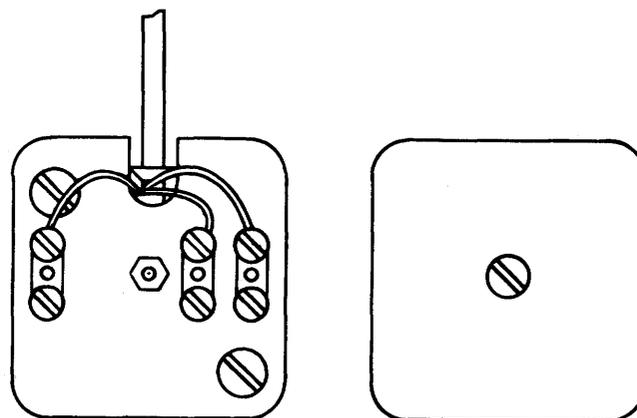

Figure 4. GTE AE D-150000-A Connecting Block.
2.04 GTE AE D-150000 and D-150002 blocks are three- and four-conductor devices, respectively, molded of phenolic and arranged with a removable tubular metal stud in the center which serves to retain a ring band strain relief and is tapped to accept the single captive screw used to retain the matching cover (Figure 4). The design is not suitable for any other type of strain relief and has no provision for intertwining the station wire conductors to secure them in place. A cord entry point is molded at the top and an opening partly in the block surface and partly in the bottom edge serves as an entry point for station wiring. The shallow cover is notched at one end for cord entry. Two screws are provided for each terminal, and the latter are designated as L1, L2, 3 and 4G. The D-150002 block is completely equipped; on the D-150000 block, terminal 3 is omitted. Addition of a fourth terminal in the field is not feasible, since the terminals are secured to the block with tubular rivets. Both blocks were manufactured in black (suffix A) and in ivory (suffix B). D-150000-A blocks were furnished with black 80-series telephone sets.